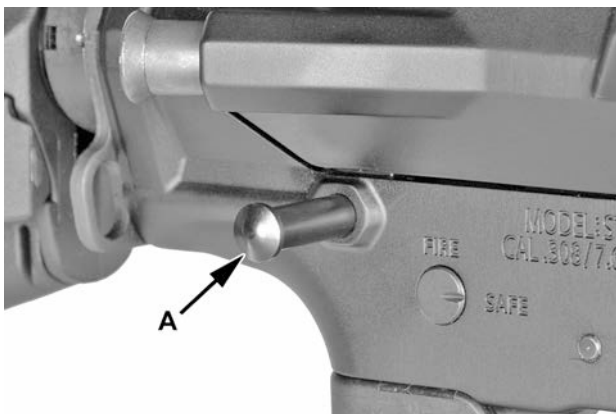

Figure 25
4. Pull the takedown pin (A) out as far as it will go. The pin will not be removed from the firearm. See figure 25.